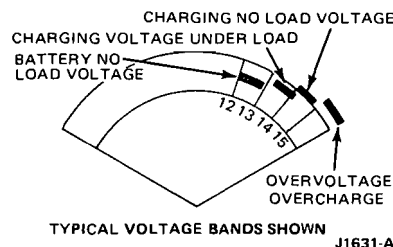

FIG. 2 Voltmeter Test Scale
7. Increase the engine speed to 2000 rpm. The voltmeter should indicate a minimum of 0.5 volt above the first recorded battery voltage (Fig. 2).